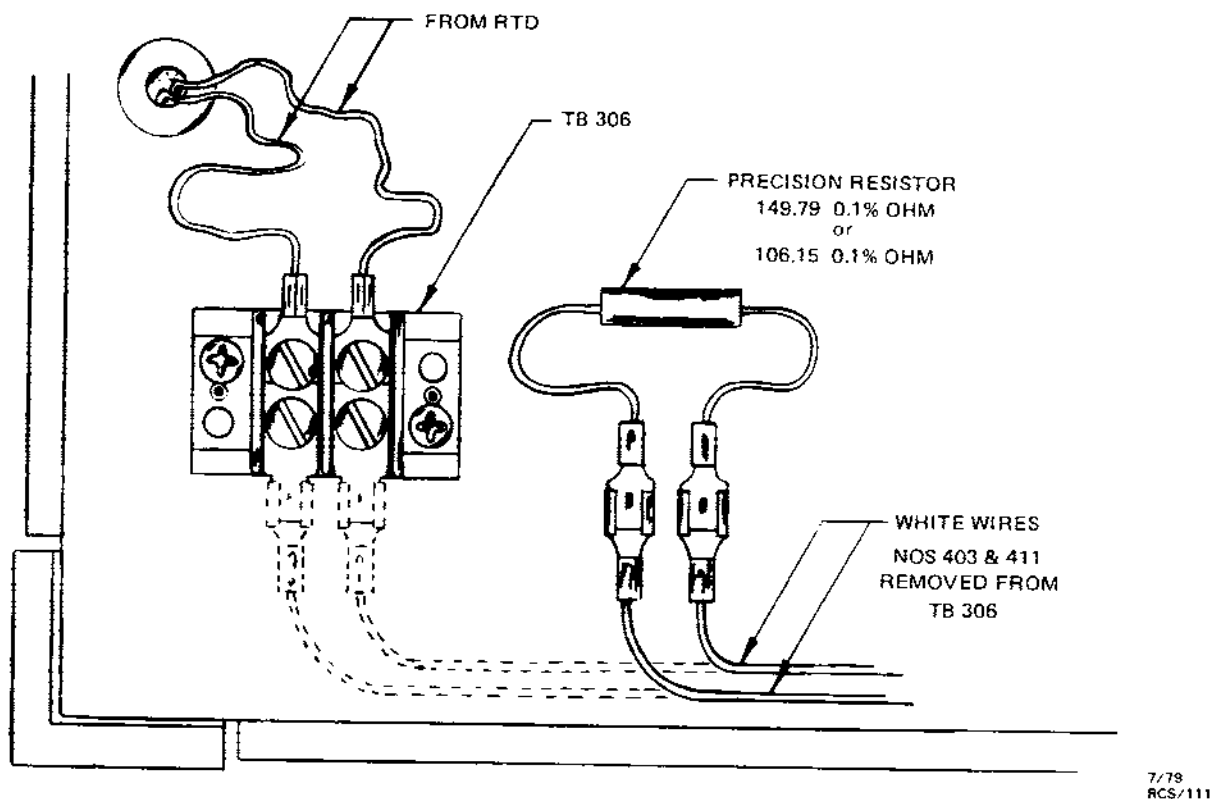

Figure 7-2. Test Setup for Temperature Meter Deflection Adjustment
4. Referring to figure 7-2, place the 106.15 ohm precision resistor in the circuit.
6. Referring to figure 7-2, place the 149.79 ohm precision resistor in the circuit.
10. Remove the precision resistor and reconnect the original circuit as shown in figure 7-2.